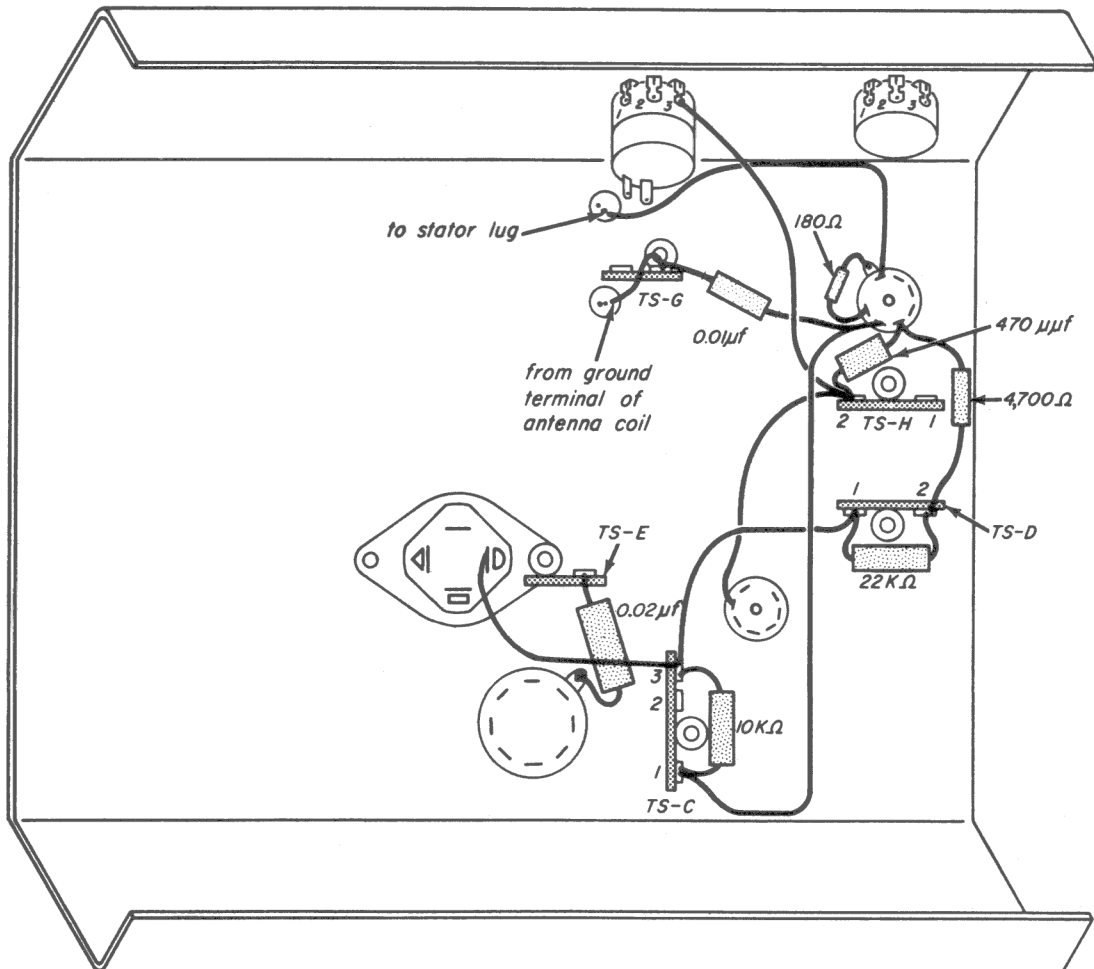
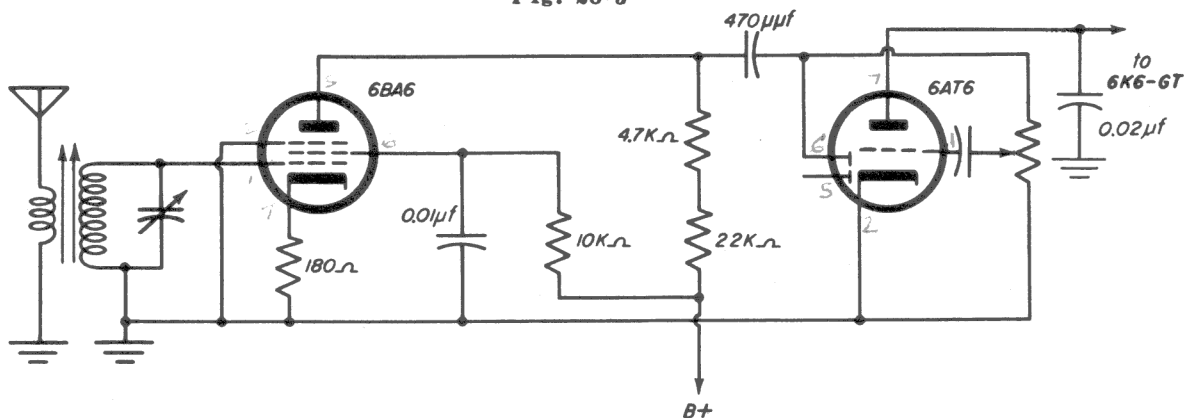

Fig. 28-5
Fig. 28-6
Step 2. Remove ground lead and then insert a 180-ohm resistor between cathode and ground as in Fig. 28-5. This is a permanent connection, so cut your leads short, and dress the resistor as shown in the figure.
Compare your chassis with the wiring diagram of Fig. 28-5 and the schematic diagram of Fig. 28-6 before you proceed.
Step 3. With the meter set to the 5 VDC scale, measure the voltage at the cathode of the tube, and enter it in the table. Compare your voltages with those given in the table. If there is a discrepancy of much more than 20 percent, locate the trouble by checking your chassis against the wiring diagram of Fig. 28-5 and the schematic diagram of Fig. 28-6 before you proceed.
The diode detector used in this experiment, shown in Fig. 28-6, is connected across the load, rather than in series with it, as in the previous detectors studied. This type of detector is called a shunt detector. It is not used as a detector for radio receivers because it loads the previous circuit more than a series detector. It is used as a temporary detector for this experiment because the cathode of the diode is the